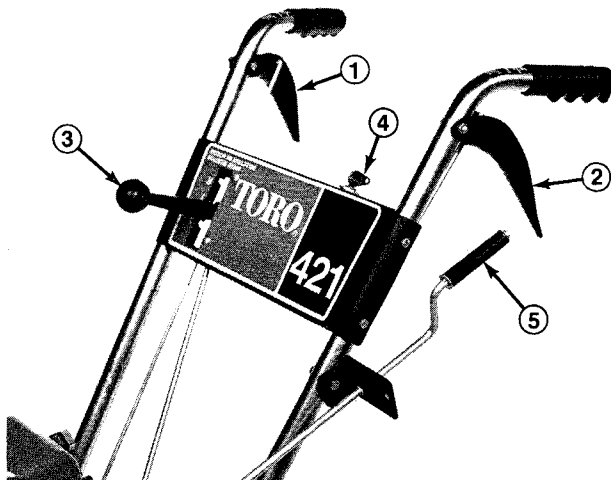

Figure 16
Auger Drive Control (Fig. 16) – Control has two positions: ENGAGE and DISENGAGE. To engage auger and impeller, compress lever against right handle grip. To disengage, release lever.
Traction Control (Fig. 16) – To achieve traction, lever must be compressed against left handle grip. To stop traction, release lever.
Speed Selector (Fig. 16) – The control has four positions: reverse, 1, 2 and 3. To change speeds, move gear shift to position desired. Lever will lock in notch at each speed selection. Use positions 1, 2, and 3 depending on snow conditions.
Ignition Switch (Fig. 16) – Switch has two positions: ON and OFF. Rotate key to ON before starting engine with the recoil starter. To stop engine, rotate key to OFF.
Discharge Chute Control (Fig. 16) — Rotate discharge chute control clockwise to move discharge chute to the left and counterclockwise to move chute to the right.
4. Rotate ignition key to ON (Fig. 16).
1. Release traction and auger drive control (Fig. 16).
2. Move throttle to slow and rotate ignition key to OFF (Fig. 16).